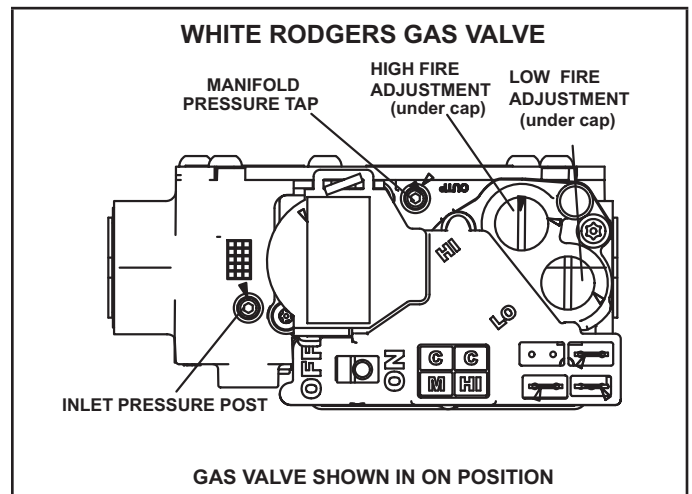

Figure 62
Gas Valve Operation (Figure 62)
- 6 - Move gas valve switch to OFF. See figure 62.
- 8 - Move gas valve switch to ON. See Figure 62.
An inlet post located on the gas valve provides access to the supply pressure. See Figure 62. Back out the 3/32 hex screw one turn, connect a piece of 5/16 tubing and connect to a manometer to measure supply pressure. See TABLE 21 for supply line pressure.
A manifold pressure post located on the gas valve provides access to the manifold pressure. See Figure 62. Back out the 3/32 hex screw one turn, connect a piece of 5/16 tubing and connect to a manometer to measure manifold pressure.
- 5 - If necessary, make adjustments. Figure 62 shows location of high fire and low fire adjustment screws.